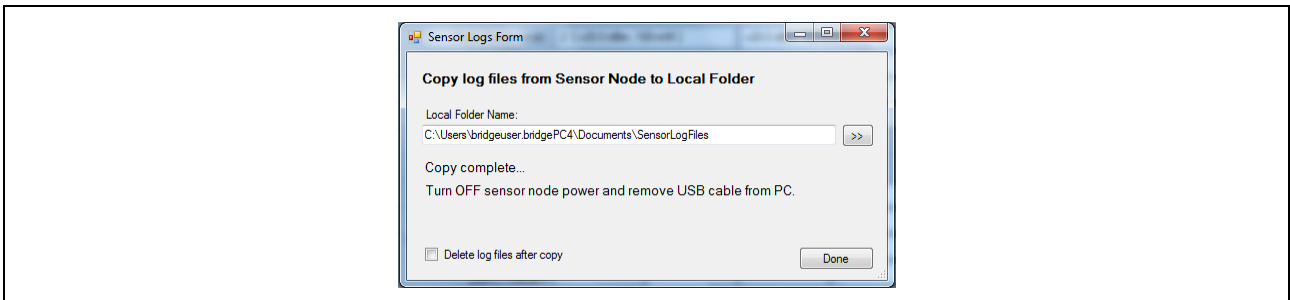

Figure 20 Copy Complete dialog
- 8 When the copy is complete the dialog seen in Figure 20 is shown.